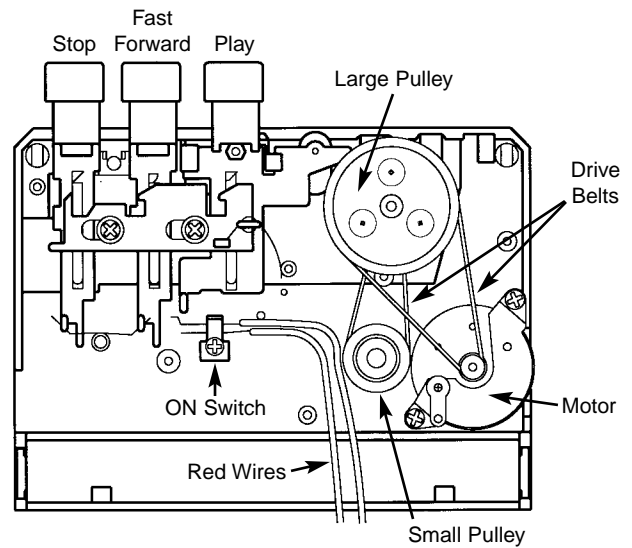

Figure 5-3
- ☐ Solder two red 2.8" wires to the ON switch as shown in Figure 5-3.
- c) Check that the wires to the PC board are wired as shown in Figures 5-3 and 5-6.
- d) Check that the ON switch closes when the PLAY button is pushed. See Figure 5-3.